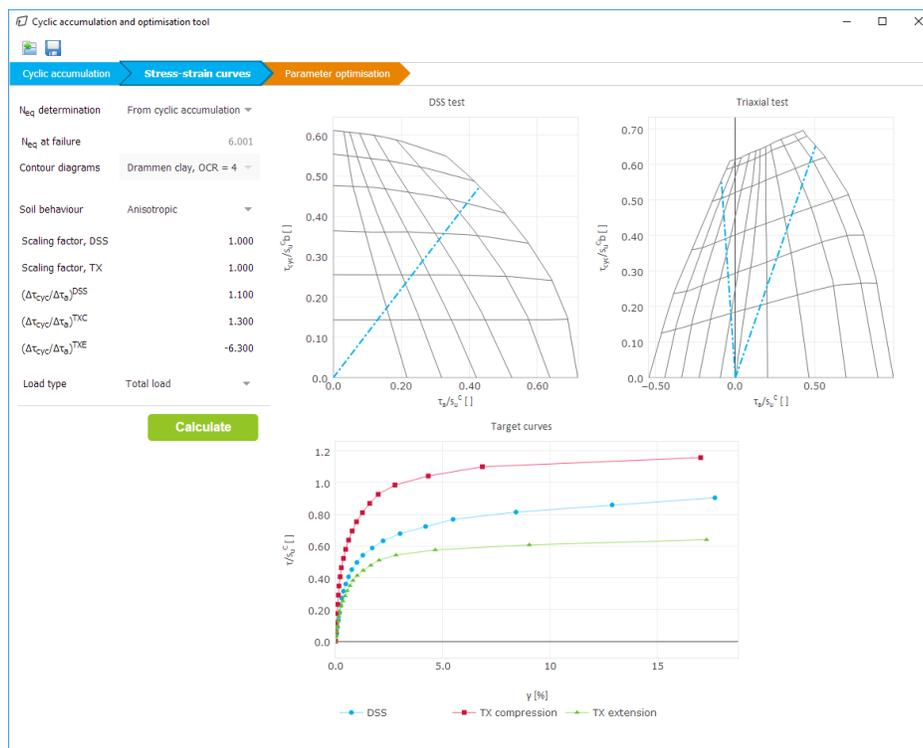

Figure 104: Stress-strain curves for total load
5. Select the load type of interest, **Total load case** is selected for this first material. DSS and triaxial contour diagrams are plotted together with stress paths described by the cyclic to average ratios (Figure 104 (on page 120)). Notice that the shear stresses are normalised with respect to the static undrained shear strength in compression. The extracted stress-strain curves are plotted below the contour diagrams.
6. Click **Calculate** to produce the corresponding normalised stress-strain curves below the contour diagrams. See Figure 104 (on page 120) for the outcome.